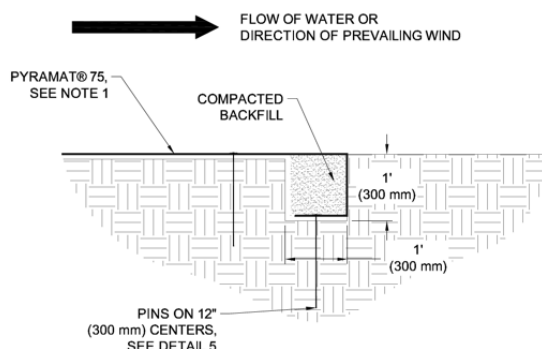

Figure 1: Initial Channel (IC) trench
3. Excavate an Initial Channel (IC) trench a minimum of 12 in x 12 in (300 mm x 300 mm) across the channel at the downstream end of the project (Figure 1). Deeper IC trench and/or hard armoring may be required for channels that have the potential for scour.